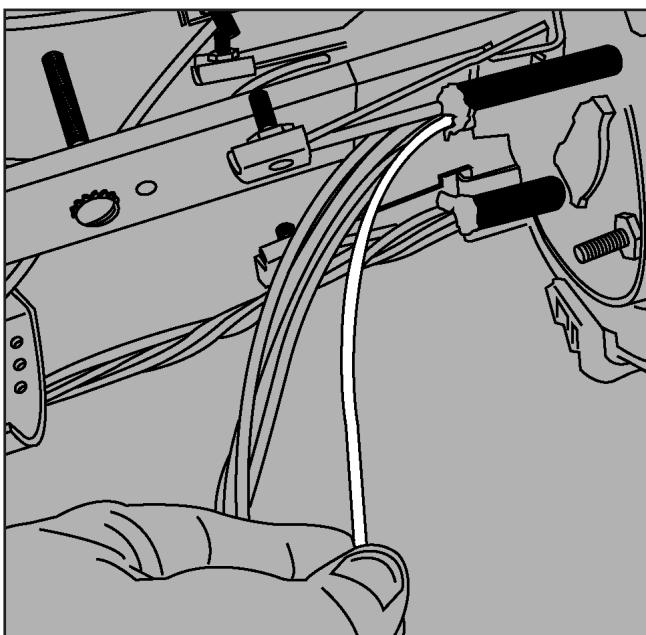

Figure 1
- From the expressed cable loop, identify and select the loose buffer tube with the fibers required for distribution and separate from the main group. (Figure 1)